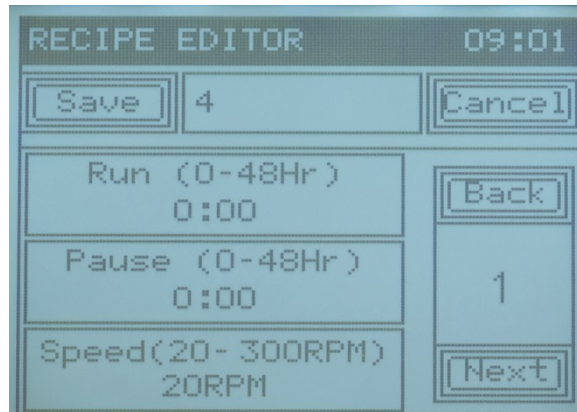

Figure 27: Recipe editor screen
Operators can load, start recipe run and view a recipe's instructions. Supervisors and maintenance can pause/resume or abort recipes as well as edit their contents or change the name under which the recipe is stored. To use the automatic mode to run the mixer according to a recipe, press automatic mode on the main menu. The automatic mode screen opens and lists the currently loaded recipe. Status bar indicates 'AUTOMATIC MODE' (Figure 27).
- On the Automatic Mode scene, press **Select**. The Recipe Selector screen will open (Figure 27).